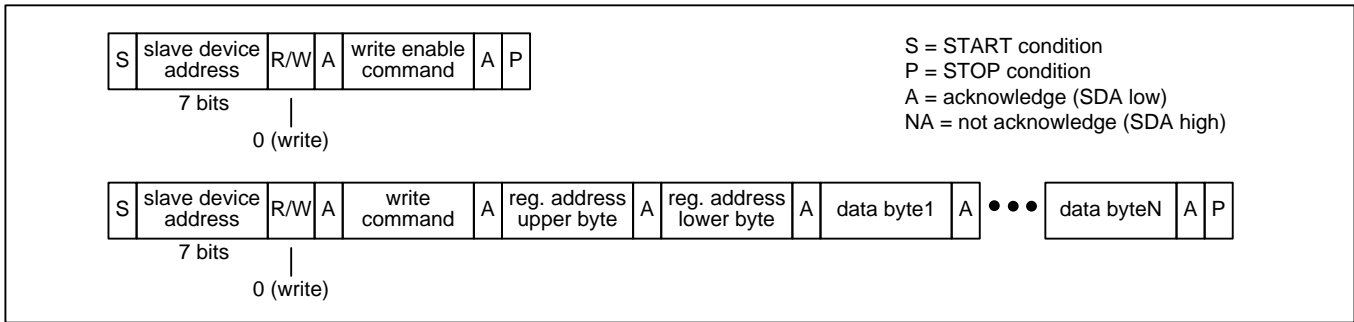

Figure 18 – I2C EEPROM Write Transaction Functional Timing (ZL30253 Only)
**EEPROM Writes (ZL30253 Only).** The EEPROM memory is accessible when **EESEL=1**. The bus master first does an I2C write to transmit the SPI Write Enable command (see Table 4) to the device. The bus master then does an I2C write to transmit data to the device as described in the Register Write Transactions paragraph above. See Figure 18.